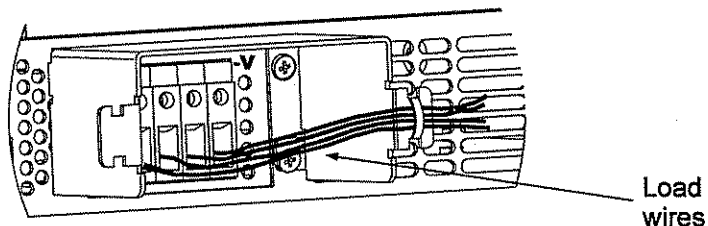

Fig.3-9: Protective shield and wires assembly
6. Tighten the wires to one of the shield sides using ty-wrap or equivalent. Refer to Fig.3-9. Ensure that the wire length inside the shield is long enough to provide proper strain relief.